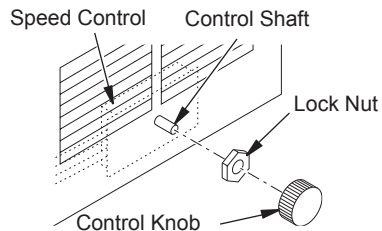

Figure 10 - Attaching Speed Control
5. Place speed control against inner wall of front panel, pushing the plastic control shaft forward through the opening (see Figure 10).
6. While supporting speed control, secure control shaft with lock nut by pushing and turning lock nut with pliers clockwise until it is tight against front panel. Place control knob provided on shaft (see Figure 10).